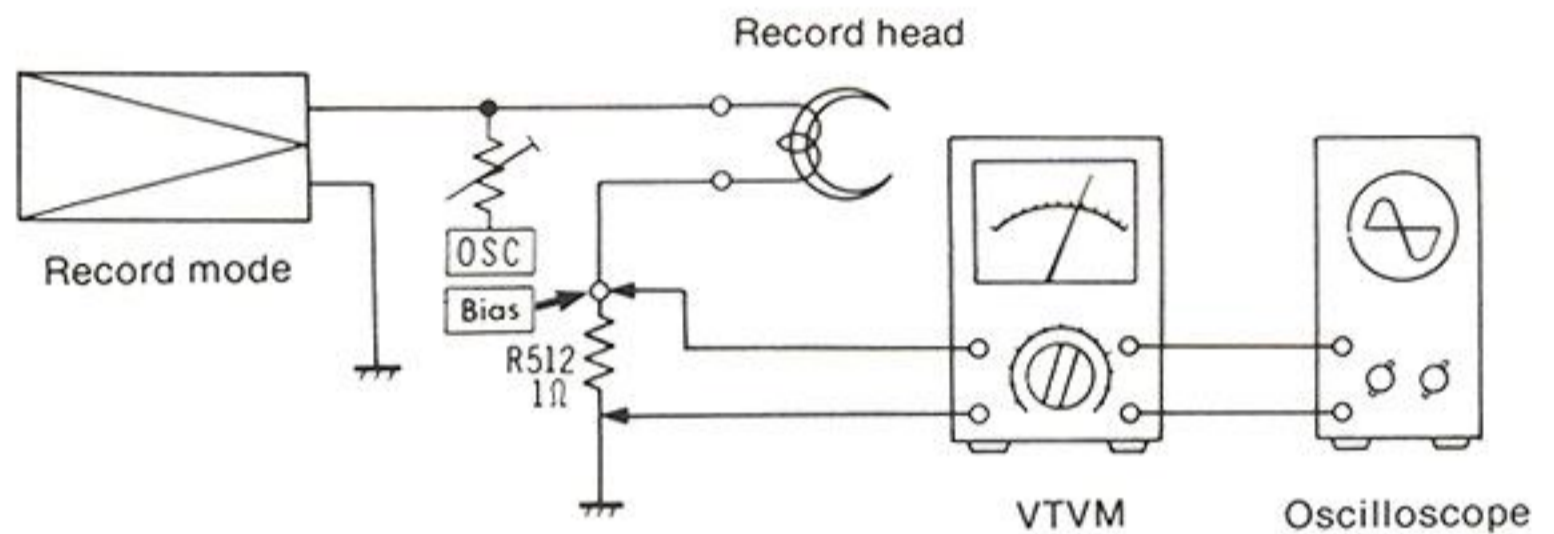
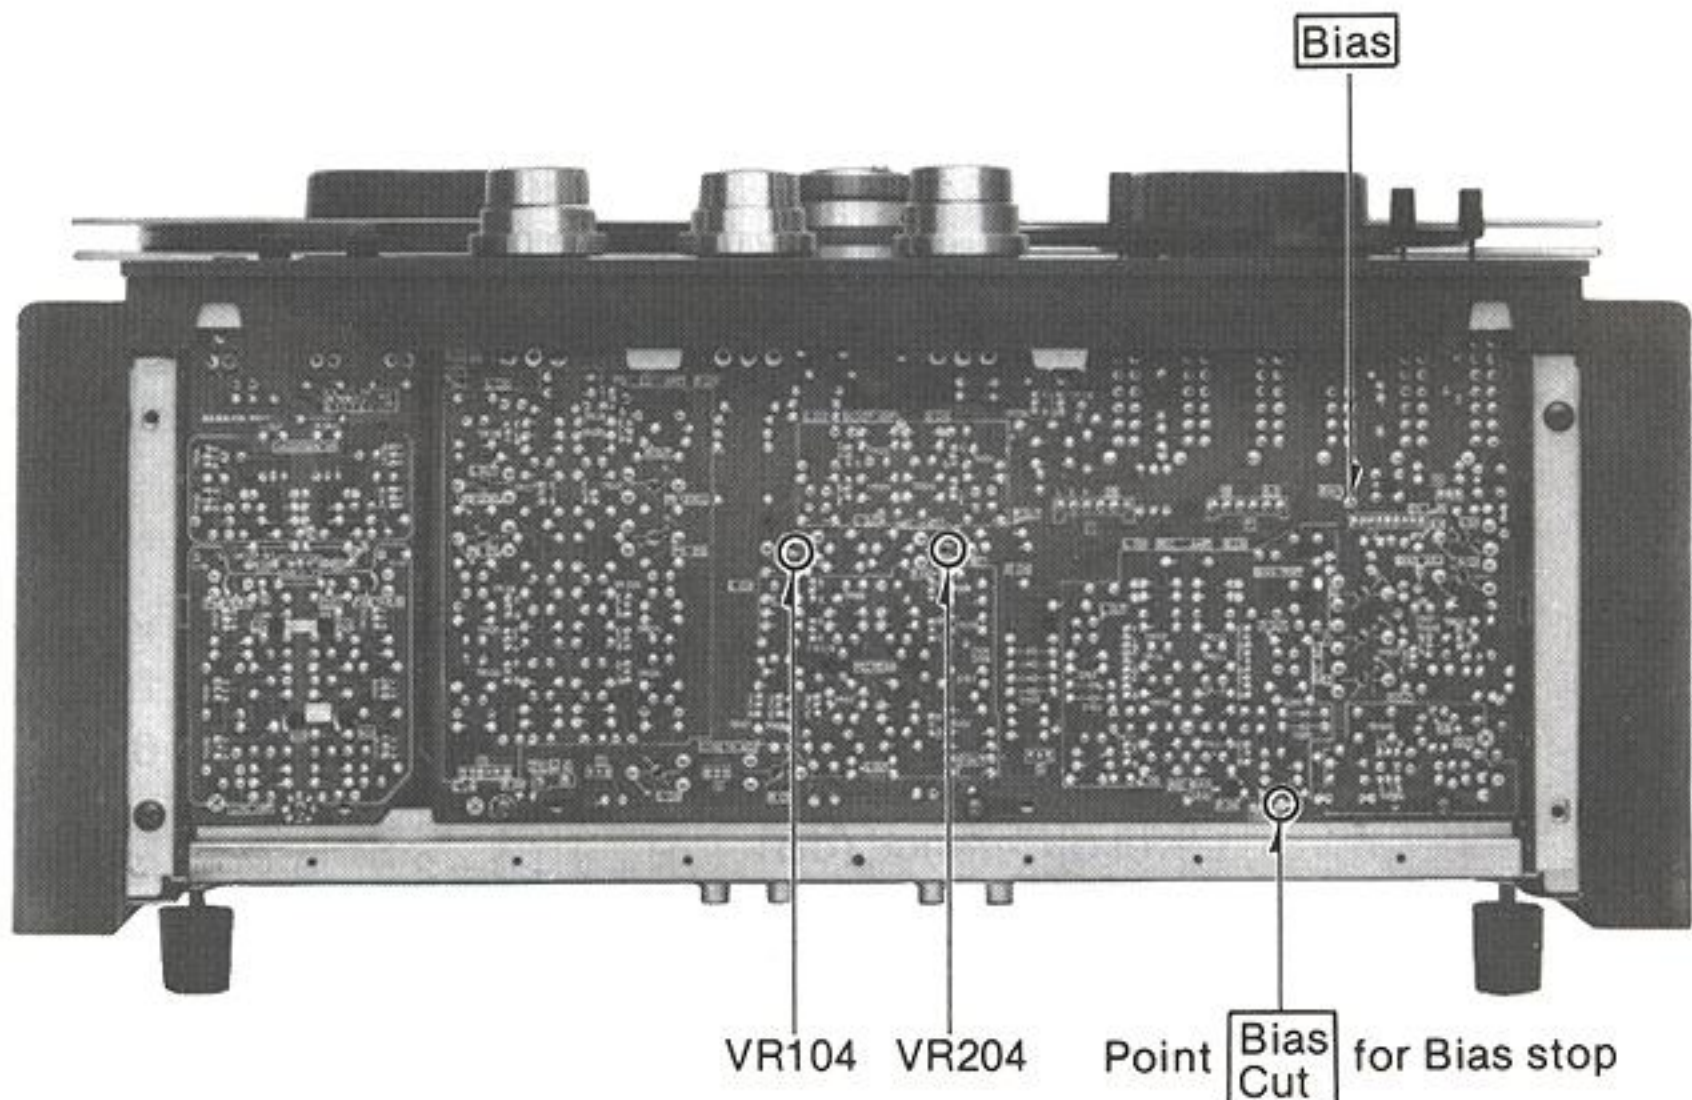

Fig. 49
Fig. 50
| Bias current | <ol style="list-style-type: none"> 1. Test equipment connections are shown in fig. 49. 2. Set the bias selector to "2" position. 3. Set the tape speed to 38 cm/s. 4. Set the unit to the recording mode. 5. Set the recording mode selectors: L-CH to ON and R-CH to OFF. 6. Measure voltage across R512 (1Ω) (at point Bias) shown in fig. 50. 7. Next set the record mode selectors: R-CH to ON and L-CH to OFF. 8. Measure voltage at point Bias. 9. Bias current is calculated by formula below. $\text{Bias Current} = \frac{\text{Voltage read on VTVM}}{1 \Omega} \text{ (V)}$ <div style="border: 1px solid black; padding: 5px; margin: 10px 0;"> <p>Standard value at 38 cm/s tape speed and at "2" position of Bias Selector: around 3 mV</p> </div> <ol style="list-style-type: none"> 10. Next set bias selector to "1" position, and measure the bias current in the same way as described in steps 3 to 9 above. 11. Confirm that the bias current is 10% less than at the "2" position of the bias selector. 12. Next set bias selector to "2" position and confirm that bias current is 10% greater than at the "2" position of the bias selector. <p>In the same way, measure bias current at 9.5 cm/s tape speed. (Standard value at "2" position of bias selector is around 2.6 mV.)</p> |
| Recording current | <ol style="list-style-type: none"> 1. Test equipment connections are shown in fig. 49. 2. Stop the bias oscillation by unsoldering the connection point Bias Cut for bias current ON/OFF shown in figure 50. 3. Thread blank test tape QZZORA218EX. 4. Set the tape selector to "38" position. 5. Set the equalizer selector to "2" position. 6. Supply 1 kHz signal (- 24 dB ± 3 dB) from AF oscillator, through ATT, to LINE-IN jacks, and adjust ATT until source monitor level at LINE-OUT jacks on VTVM becomes 0.55 V. 7. Set the recording mode selectors to "ON" (L-CH) and "OFF" (R-CH). 8. Place unit into recording modes. |
- Test equipment connections are shown in fig. 49.
| Overall gain | <ol style="list-style-type: none"> 1. Test equipment connections are shown in fig. 36. 2. Thread blank test tape QZZORA218EX. 3. Supply 400Hz signal (-24 ± 3dB) from AF oscillator, through ATT, to LINE-IN jacks. 4. Adjust ATT so that the output level at LINE-OUT jacks on VTVM becomes 0.55V. 5. Place unit into recording mode. 6. Set the monitor selector to "Tape" position (both channels). 7. Then, measure the output level at LINE-OUT jacks when VTVM indicates 0.55V. <p>[Adjustment]</p> <ol style="list-style-type: none"> 1. If the measured value is not satisfied, adjust the overall gain adjustment VR, VR104 (L-CH) and VR204 (R-CH) shown in figure 50. | | | | | | | | | | | | | | | |